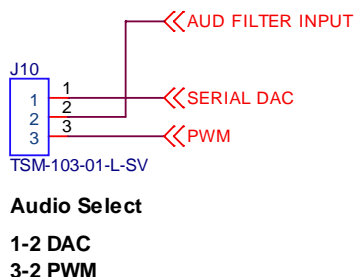

Figure 4-4. J10 Audio Output Source Jumper
- Jumper J10 - selects audio output source. See Figure 4-4 for connections.